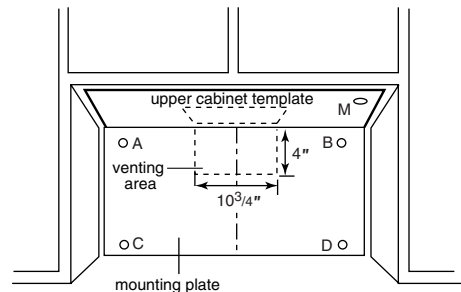

Figure 19
4. Using the mounting plate, mark the position for attaching it on the wall with a pencil. If you want a wall vented installation, mark the position for the ventilation hole ($10\frac{3}{4}$ "X4") on the wall too. See Figure 19.
5. Measure the bottom of the upper cabinet frame. Trim the template so that the template will fit on the bottom of the upper cabinet. If the upper cabinet has a recessed area, trim the template so it fits inside the recessed area. Align the centerline of the upper cabinet template with the centerline of the wall template, then securely tape or tack the upper cabinet template in place. See Figure 19.
- **WALL-VENTED:** cut out the marked area on the wall. See Figure 19.